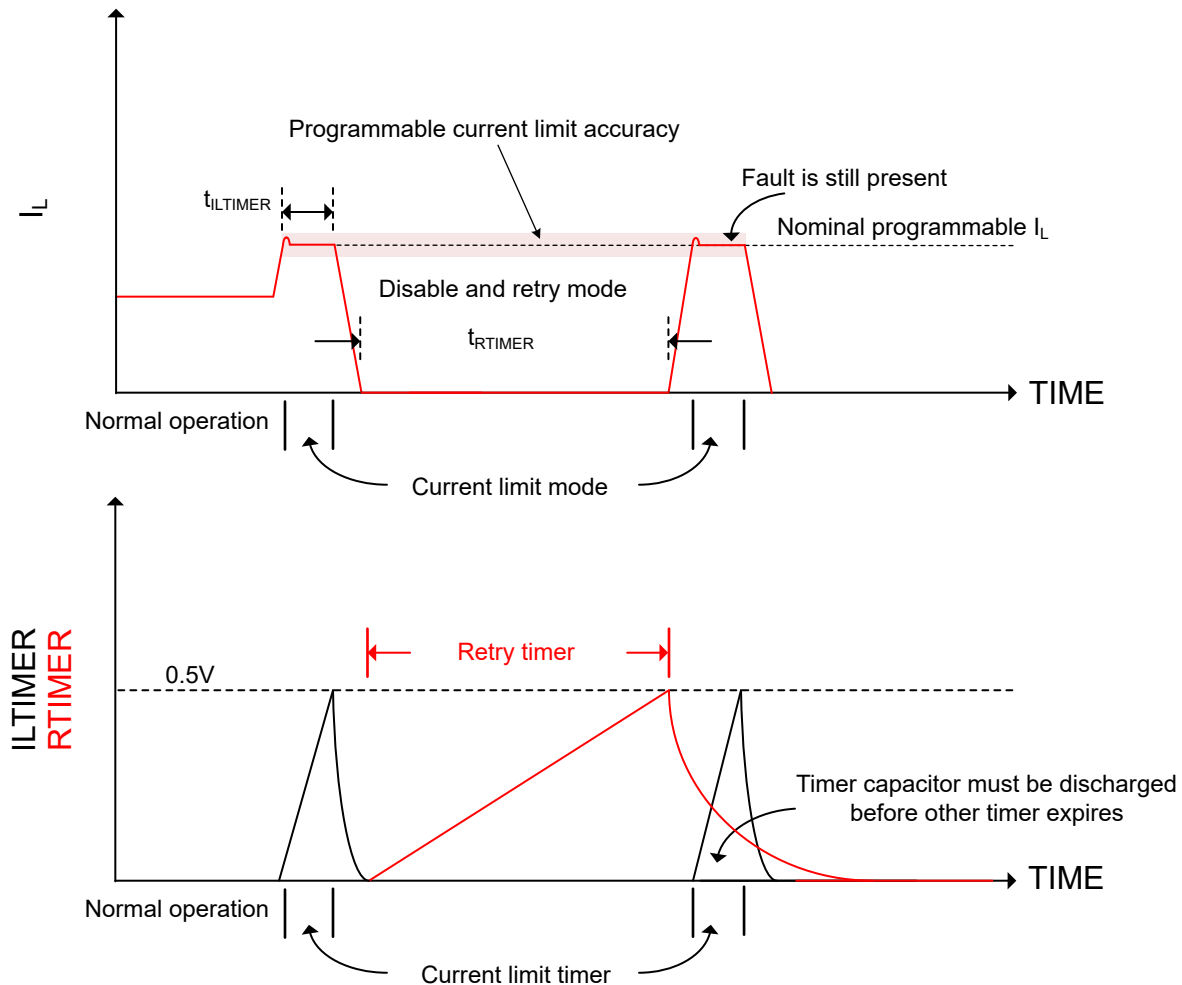

Figure 8-2. Programmable Fault Timer Capacitors Constraint
The programmable fault timers, ILTIMER and RTIMER, must be set in such a way that the capacitor for one timer is discharged before the other timer expires to provide proper operation. Figure 8-2 shows a situation where this constraint is not met as the RTIMER is much larger than the ILTIMER and therefore, the C_{RTIMER} is not discharged before the $C_{ILTIMER}$ reaches 0.5V, which is when the ILTIMER expires. To avoid this situation, the constraint shown in Equation 10 must be met. Using this equation, once a capacitor for a timer has been selected (C_1 in Equation 10), the maximum value for the capacitor of the second timer can be determined. In the specific case of using the internal ILTIMER, the RTIMER capacitor must be sized such that the capacitor is discharged before the internal ILTIMER expires, assuming the fault is still present. The internal pull-down resistance for each of the timers can be found in the Electrical Characteristics: All Devices table. For the situation shown in Figure 8-2, C_1 and R_{PD1} in Equation 10 correspond to the RTIMER.
- Figure 8-2: Programmable fault timer capacitors constraint